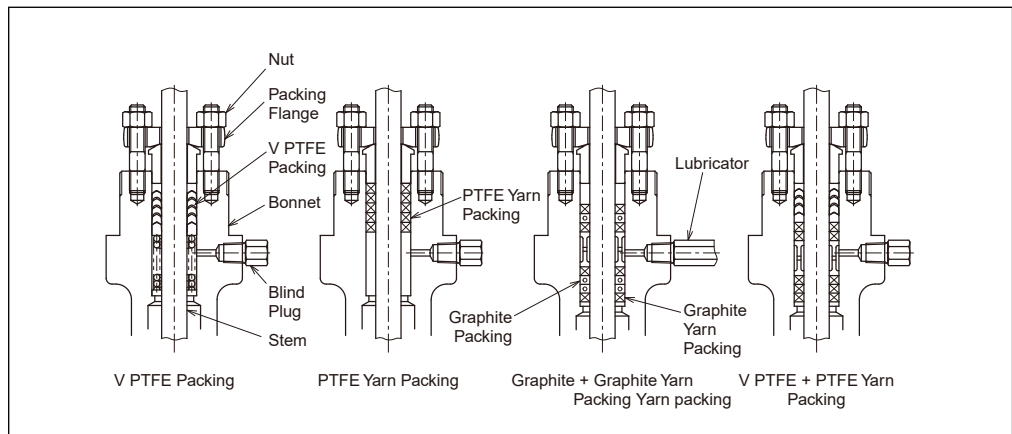

Fig. 2-1. Gland section
8	Insert the gland packing as shown in Fig. 2-1.  Note: When yarn packing sheets are used, overlap sheets in such manner that their cut ends are positioned alternately.
8	<p>Insert the gland packing into the gland box, refer to Fig. 2-1.</p> <p>Note: In case of using yarn-packing, which must be attached as each cut end becomes by turns.</p> <p>Insert the packing follower (3) and packing flange (2), and tighten the nuts uniformly. For tightening torques, see Table 4-1.</p>